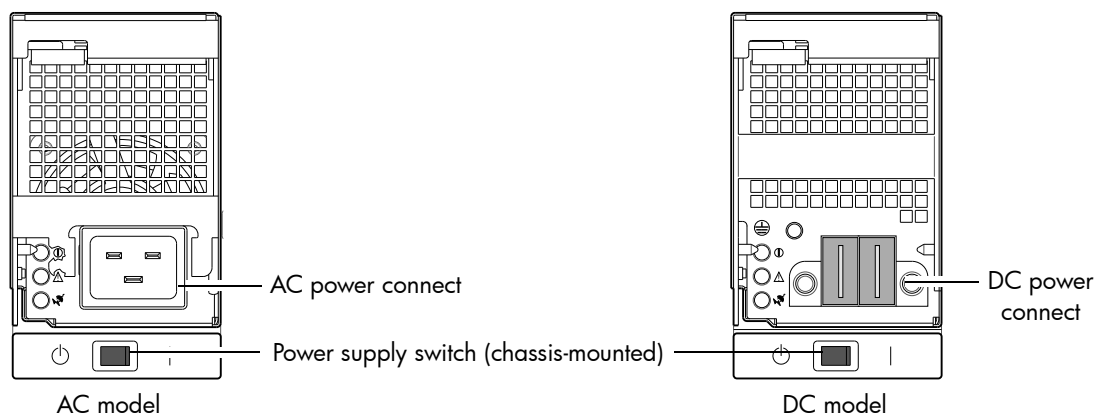

Figure 39 AC and DC PSU (4U56)
3. Turn off the power switch located below the PSU on the chassis, as shown in Figure 39.